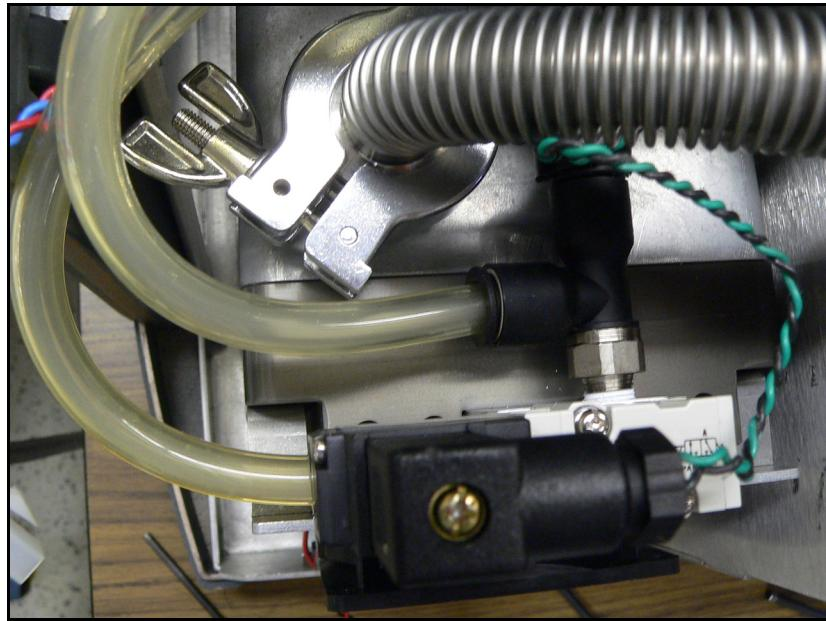

Figure 2: NW 16 Connection
4. Disconnect the NW 16 connection (Figure 2: NW 16 Connection).